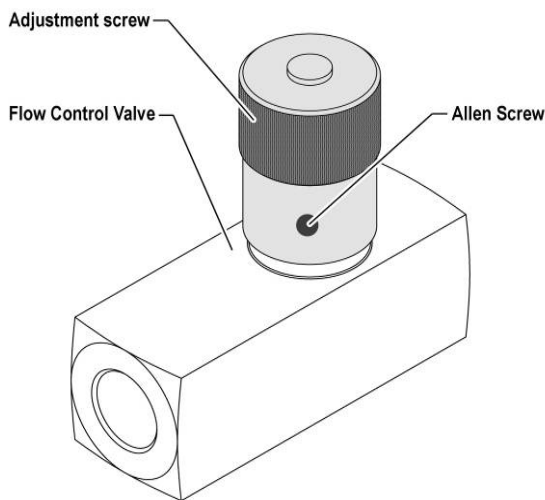

Figure 8B. Flow Control Valve (Automatic models only)
4. If the pressure is not within these limits, loosen the lock nut. See Figure 8B.